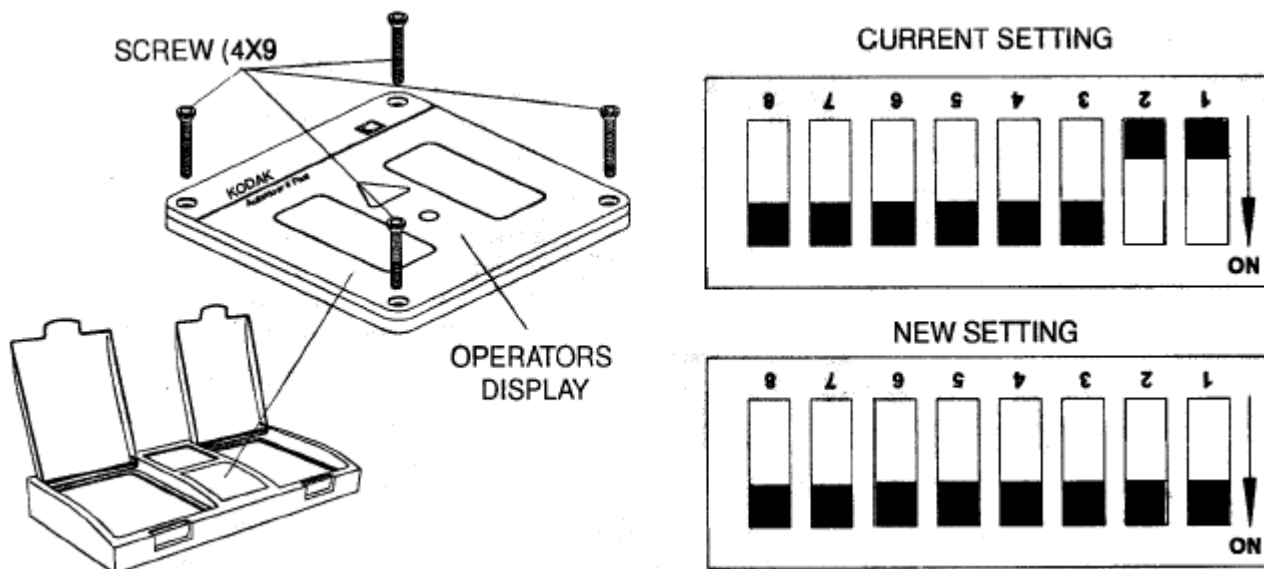

Figure 4
- [10] Remove the 4 SCREWS of the DISPLAY, keep the hardware. Remove the DISPLAY (see figure 4).
- [15] **Change Dip Switch setting for the NEW SETTINGS, (see figs 4 & 5) when EX II DEVELOPER is used.**